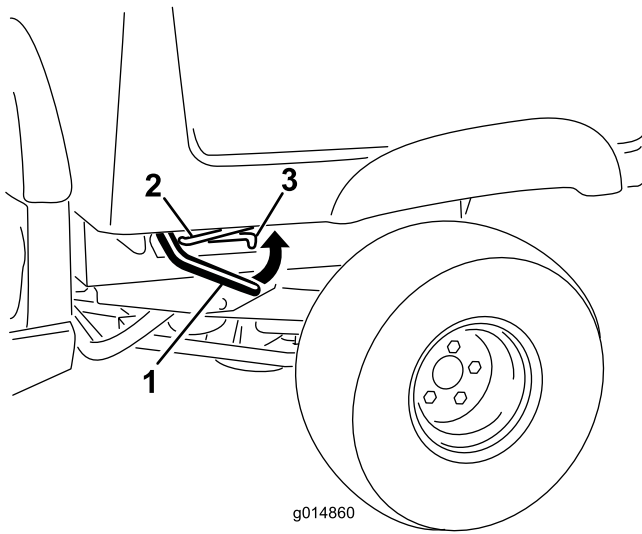

Figure 14
1. Lift the lever on either side of the box and lift the box up (Figure 14).
2. Pull the prop rod into the detent slot, securing the box (Figure 14).